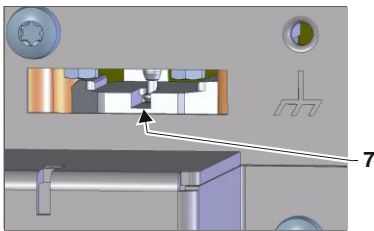

Fig. 5: Visual control of the groove alignment
- Alignment of the groove of the coupling, to allow the piston rod to extend → Fig. 5.
- Remove the fixing screw (label 5) holding the guide bush at the bottom of the switching (20) resp. buffer module (21).
- Alignment of the groove of the coupling, to allow the piston rod to retract (label 7 → Fig. 5).